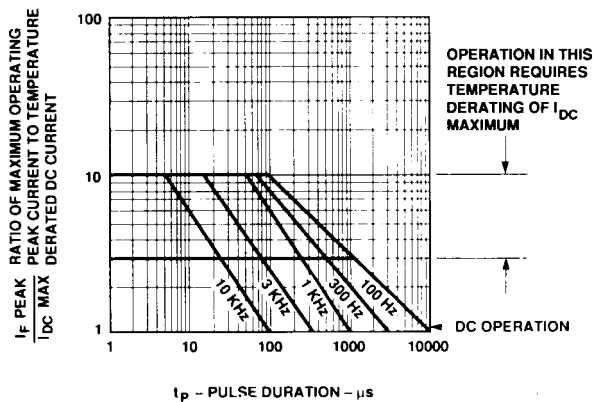

Figure 7. Maximum Tolerable Peak Current vs. Pulse Duration – HER.
- See Figure 7 to establish pulsed conditions.